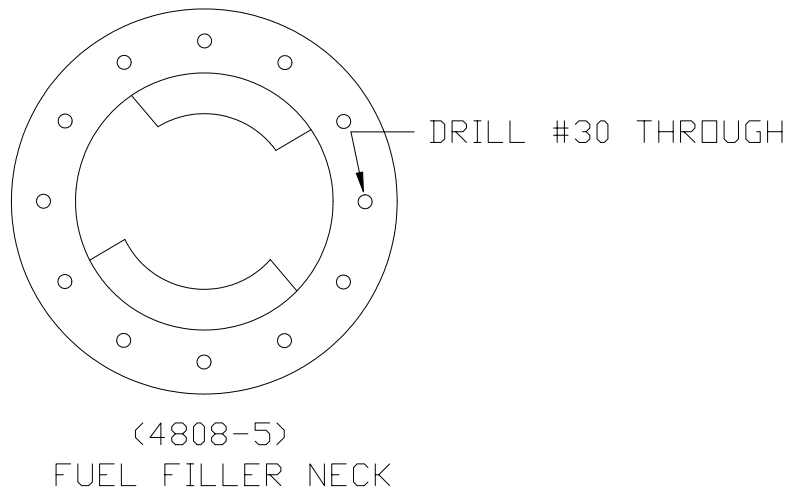

Figure 8.20.5
- 11) Center the Fuel Filler Neck over the hole and drill twelve #30 holes through the Tank Skin using the Filler Neck as a drill guide. Figure 8.20.5